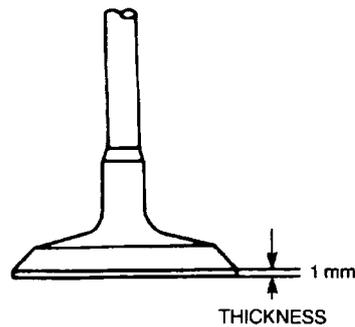
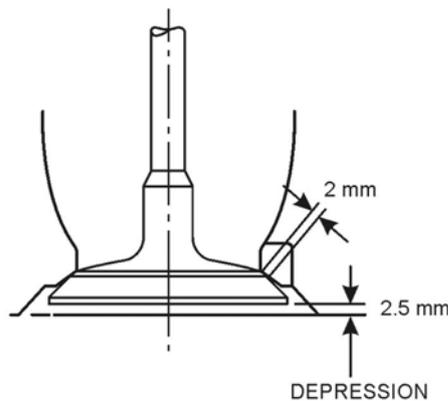

Figure 4 Measuring the Valve Head Thickness
Figure 5 Measuring the Valve Depression
- p. Check the valve contact width of the valve seat. If the contact width exceeds the 2.0 mm (0.079 in) limit, insert the valve which was originally positioned in the port, ensuring that the valve head thickness (Figure 4) is not less than 1.0 mm (0.039 in) and measure the amount of depression between the cylinder head surface and the head of the valve (Figure 5). The standard depression limit is 1.0 to 2.5 mm (0.039 to 0.084 in). If the depression is within these limits, carefully grind or cut the valve seat to obtain the correct contact width and recheck the amount of depression. If the depression exceeds 2.5 mm (0.084 in) or if cracks or surface imperfections are evident, replace the valve seat. Repeat this procedure for each valve seat.